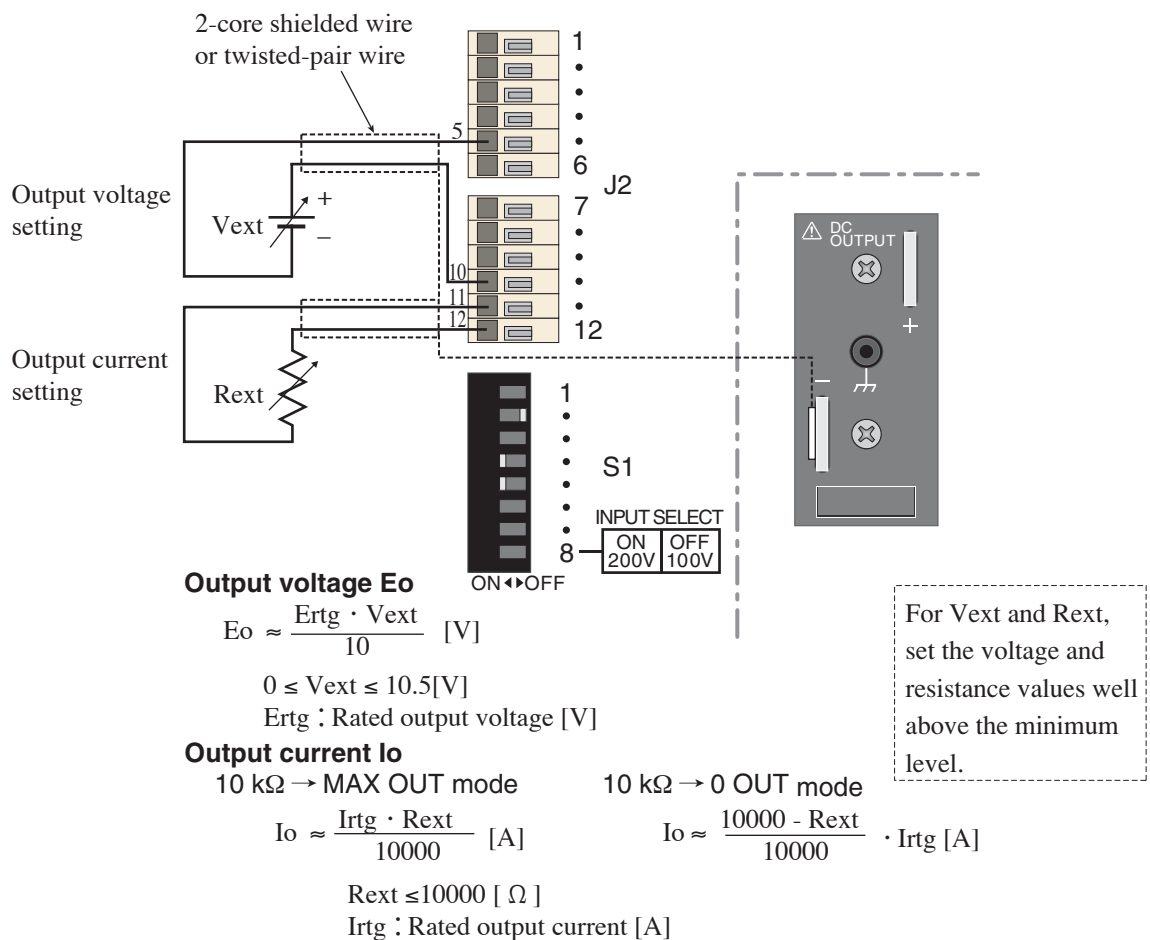

Fig. 4-7 Connection for Control 1
- Fig. 4-7 shows the general relationship between Vext and the output voltage E_o and between Rext and output current I_o . But since they are approximate formulas, if you need precise zero and maximum values for output values, adjust the Vext and Rext values (I_o applied to the $10\text{ k}\Omega \rightarrow 0 \text{ OUT}$ mode).